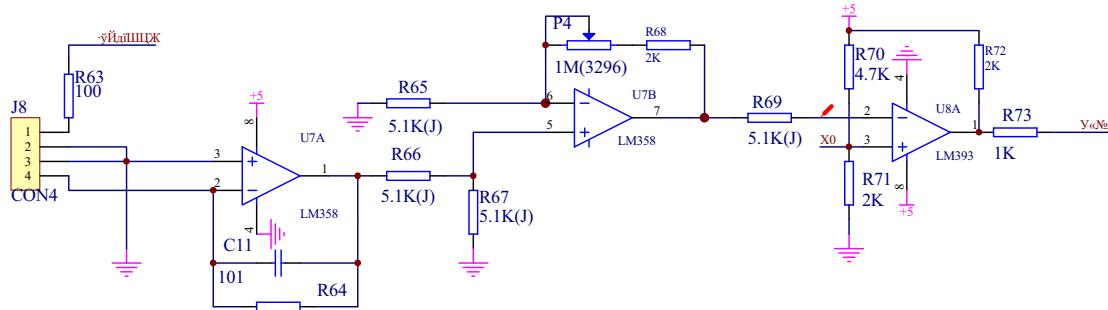

Fig. 17 UV Sensor Circuit Diagram
## (2) PRO85UM, PRO85UM/S (Fig.17)
The width sensor is mainly made up of infrared transmitter and acceptor (refer to Fig.17). The transmitter lighting is sent into the acceptor from very small gap so as to accurately measuring the disk bar. 1Pin and 2 Pin are the connections for the transmitter, 3Pin and 4Pin are the connections for the acceptor. Make 2Pin connect with 4Pin, and then make them connect with the floor wire of CN3.